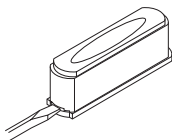
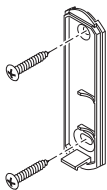

Figure 1
Figure 4
1. Remove orange battery tab from push button. Remove back of case by pushing in tab on bottom with a small screwdriver (see Figure 1). Remove orange battery tab.
- **Screw Mounting:** To mount with screws, remove back of case by pushing in tab on bottom with a small screwdriver (see Figure 1). *Note:* Remove material in screw holes (if needed) before mounting with screws. Attach back of case to door jamb or wall (see Figure 4). Snap front of push button on.